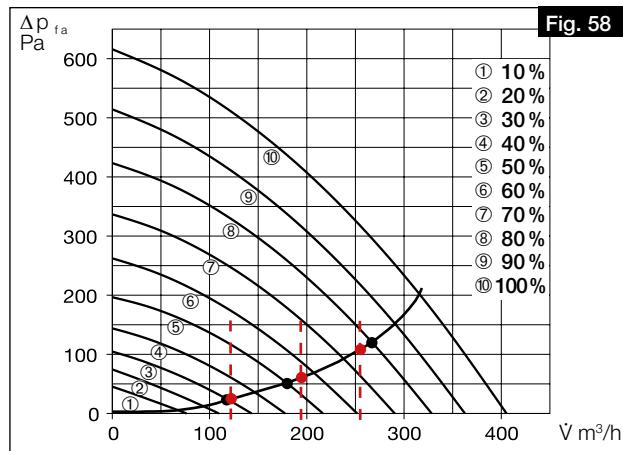

Fig. 58
- Enter the flow rates from the design calculation for the three ventilation profiles "At home", "Away" and "Boost" in the unit characteristic curve for supply and extract air (cf. Fig. 58).
- The approximate fan powers to be set (in %) can be read from the ventilation profiles at the points of intersection of the flow rates and the system characteristic curve. Enter these in the corresponding ventilation profile via the easy-Controls software or the control element KWL-BE Touch (cf. Fig. 58 and Fig. 59).